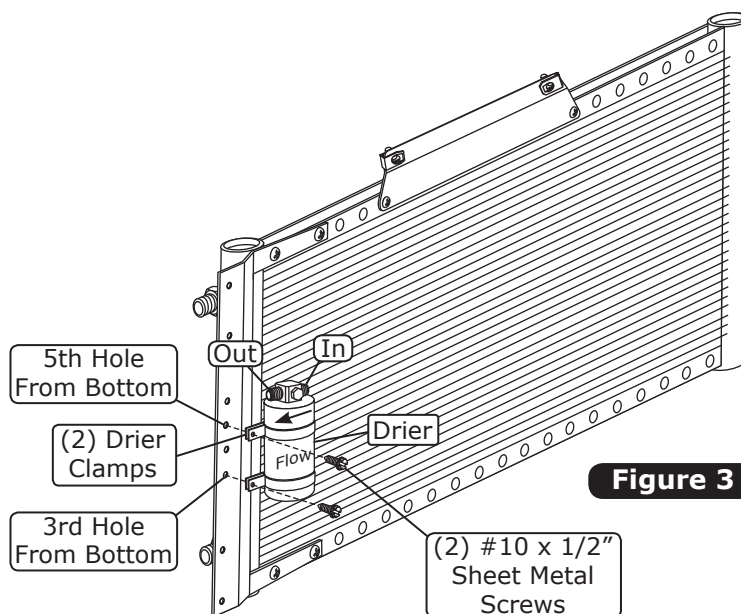

Figure 3
2. Secure the drier to the drier bracket using (2) #10 x 1/2" sheet metal screws through the 3rd and 5th holes from the bottom of the bracket as shown in Figure 3, below. **NOTE: Refrigerant flow through the drier is IN from condenser, OUT to evaporator.**